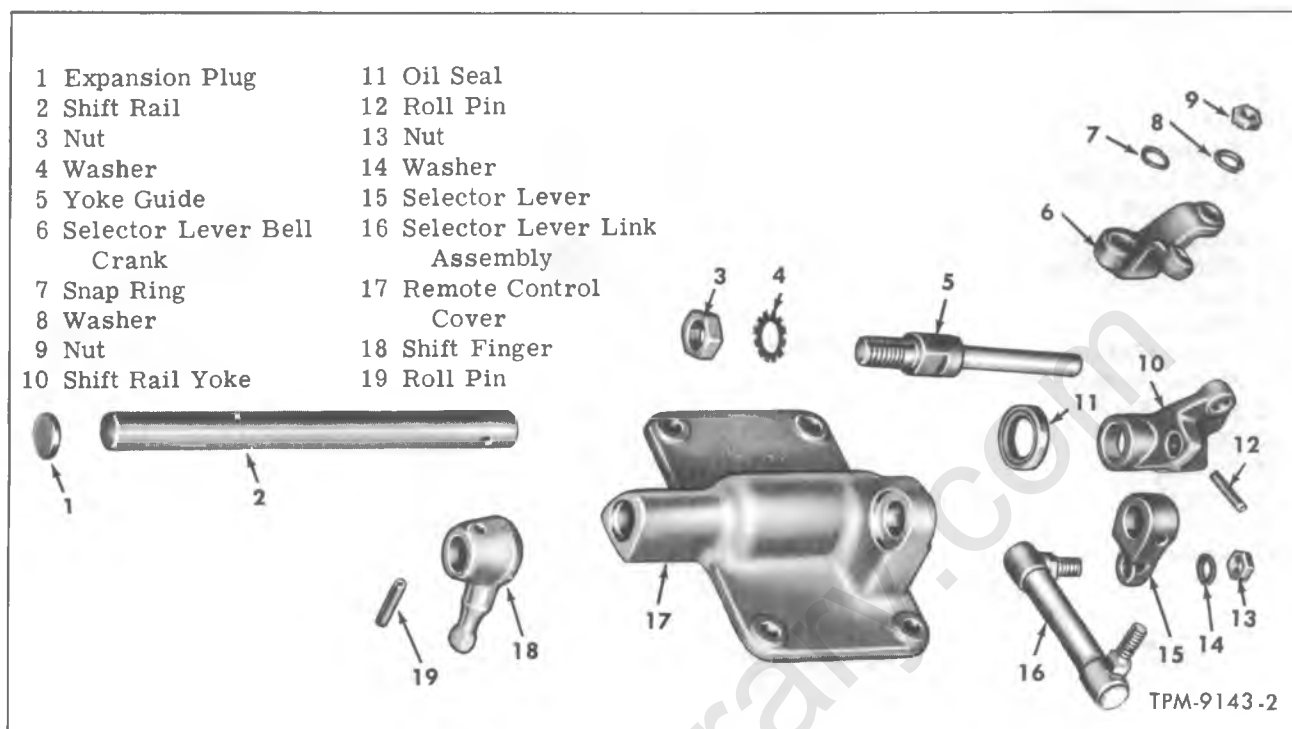

Figure 5—Remote Control Assembly (New Process 540 or 542)
NOTE: Key numbers in text refer to figure 5.
1. Press or drive shift rail yoke bushing out of bore in shift rail yoke (10, fig. 5).
1. Press or pry oil seal (11, fig. 5) out of remote control cover.